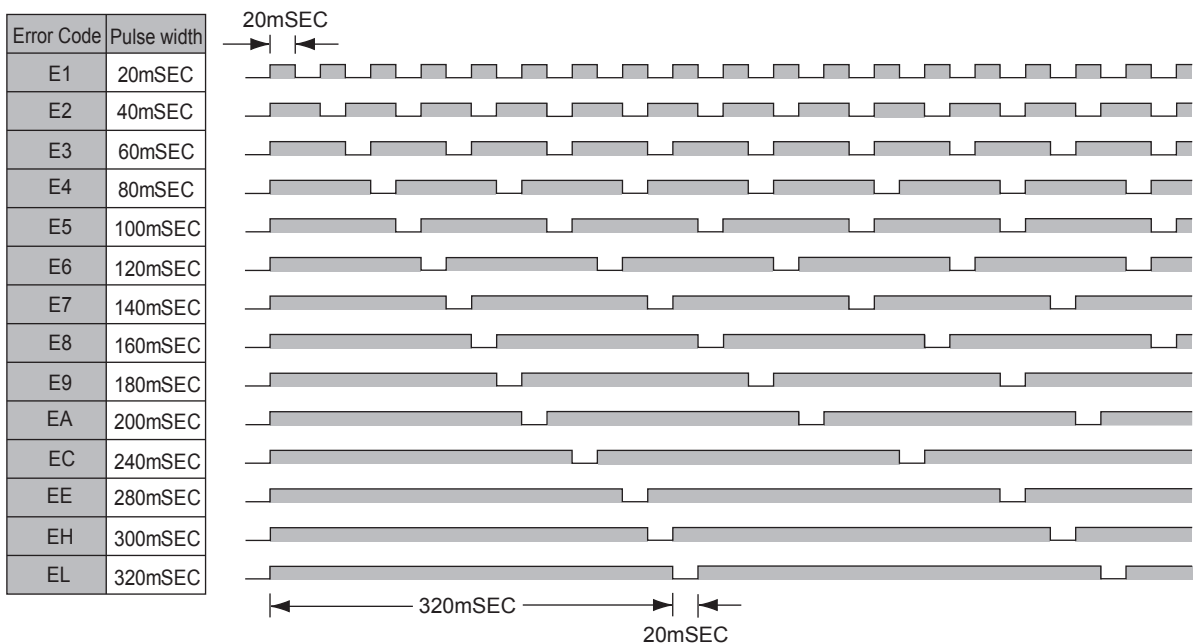

Fig. 43
When an error occurs, an error signal is output to the external Input / Output Connector A ③ (terminal No. 8: ERR). (Refer to Fig. 43.)